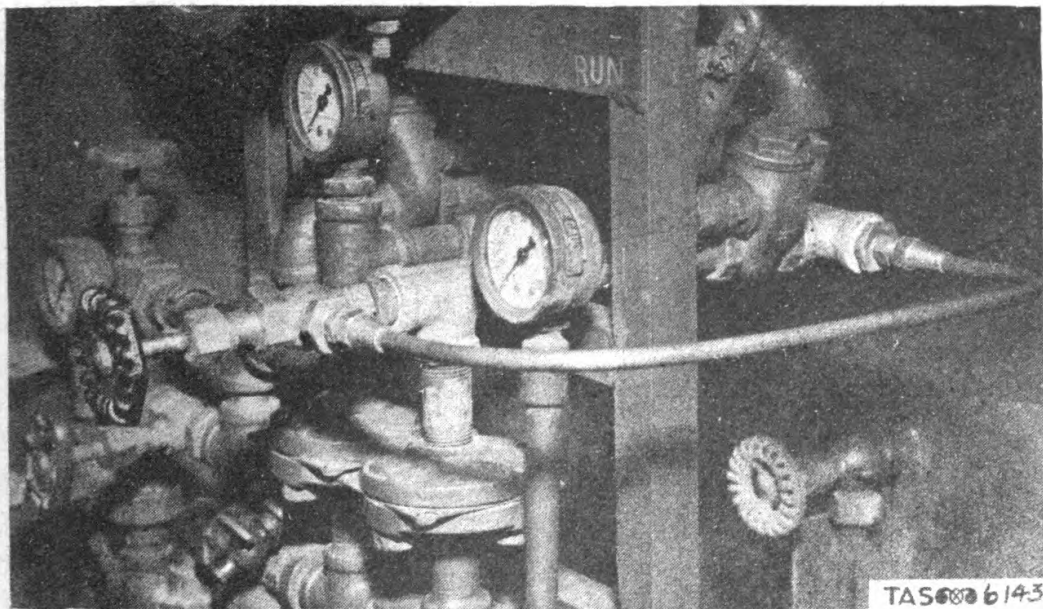

Fig. 1. Water By-pass.
a. Water by-pass. (See fig. 1.) Choose the horizontal 1/2-inch line carrying the quick-opening valve and the water manifold. Remove the elbows at each end of the line and replace them with 1/2-inch tees. Screw 1/2 x 1/4-inch bushings into the open connections of these two tees. Screw a 1/4-inch angle valve into one of these bushings, using the 1/4-inch close nipple